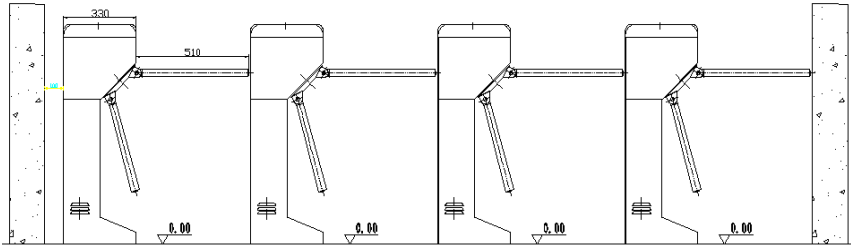

Fig. 1 Definition of Entry and Exit
- (1) Entry: passing through the barrier passage from outside the controlled area into the area controlled by the product, as shown in Fig. 1.
- (2) Exit: passing through the barrier passage from inside the controlled area to the area outside the control of the product, as shown in Fig. 1.